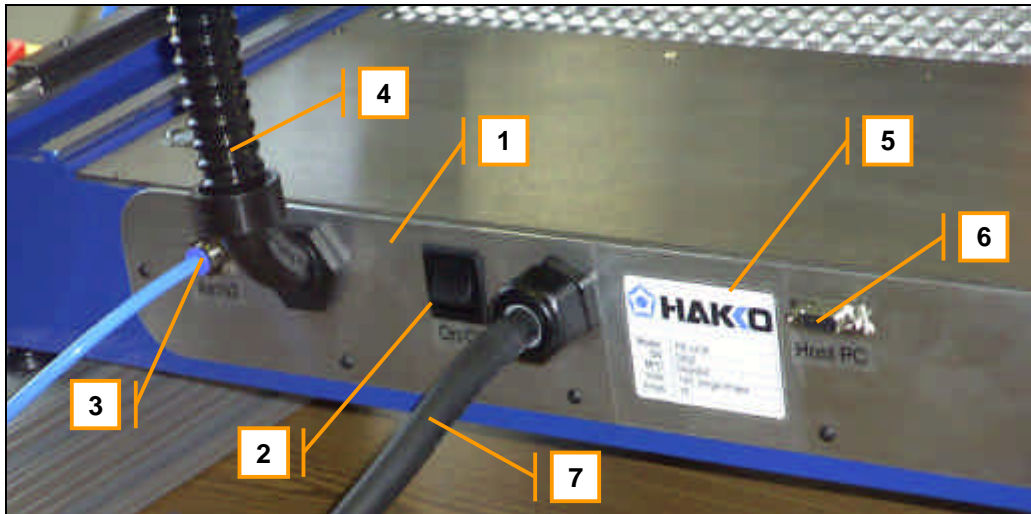

Figure 20: Rear Panel
Connect air or nitrogen to the rear panel fitting using ¼ inch plastic tubing. (See Fig. 20) The supply gas must be clean, dry and regulated to 60PSI. The supply should be capable of delivering 5 CFM minimum continuous supply at 80 PSI. Poor filtration or wet air lines will degrade heater and pneumatic component performance.
2. Turn the power switch to the 1 (On) position. (Fig. 20)